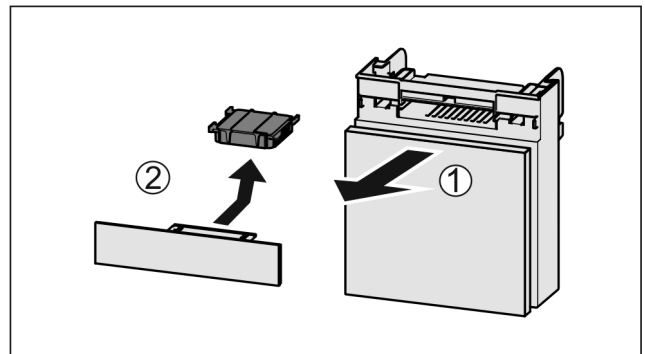

Fig. 182
- Pull out the compartment Fig. 182 (1).
- Remove the carbon filter Fig. 182 (2).